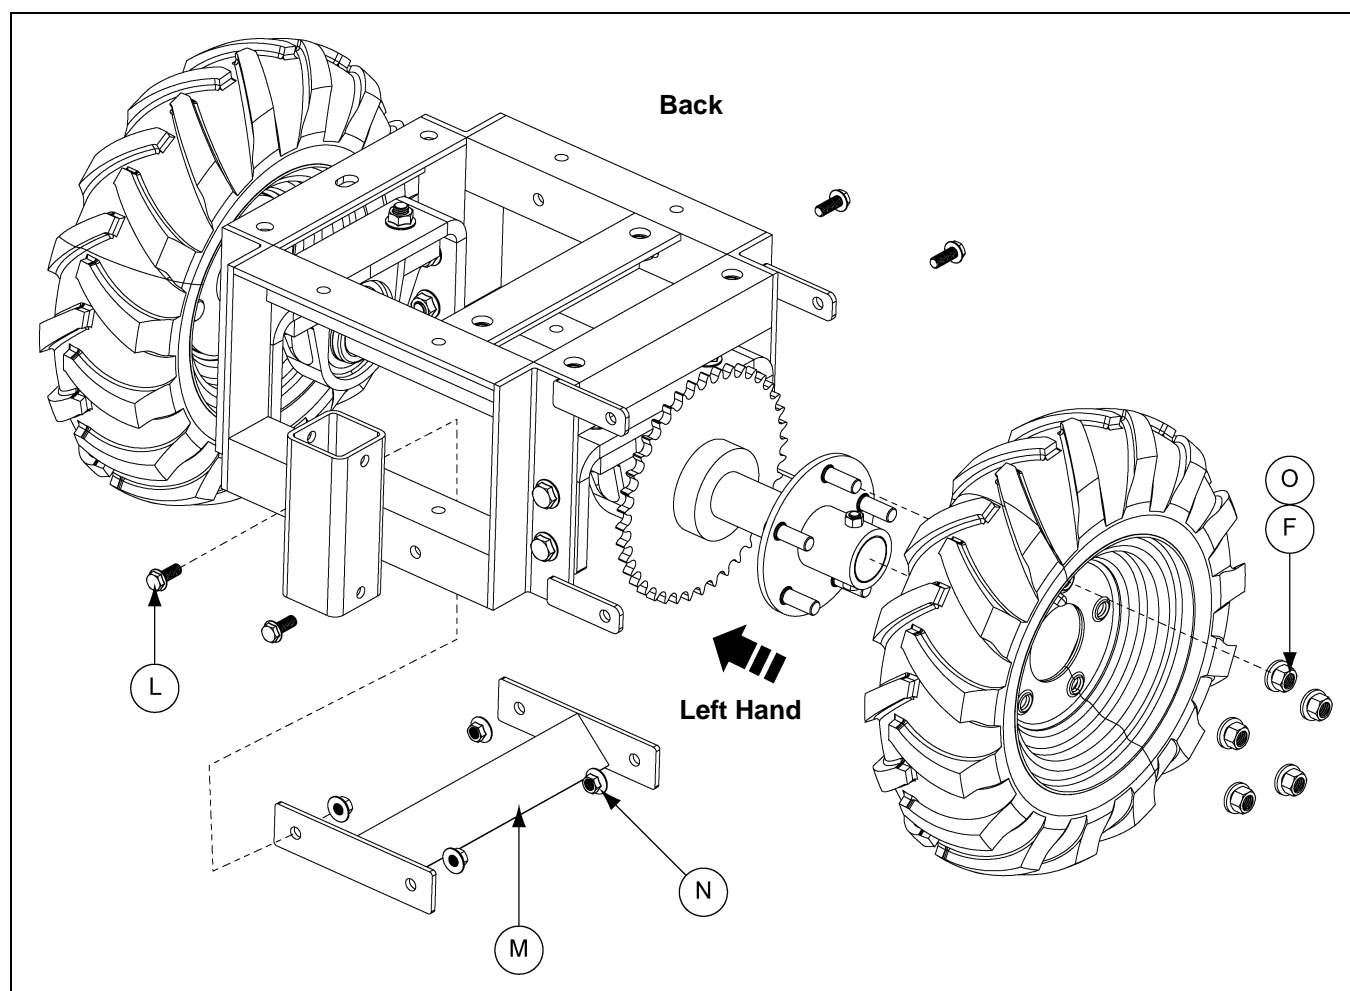

Figure 4R
NOTE: Remove the screws or nails that are present in the tires to contain the foam in the tires when they are made. The treads of the tires should be in the forward direction. Figure 4R shows the proper orientation of the tire and wheel assemblies.
8. Assemble the strut bracket (M) to the tractor frame using four (4) 3/8"-16 x 1" flange bolts (L) and serrated flange nuts (N). (See Figure 4R.)